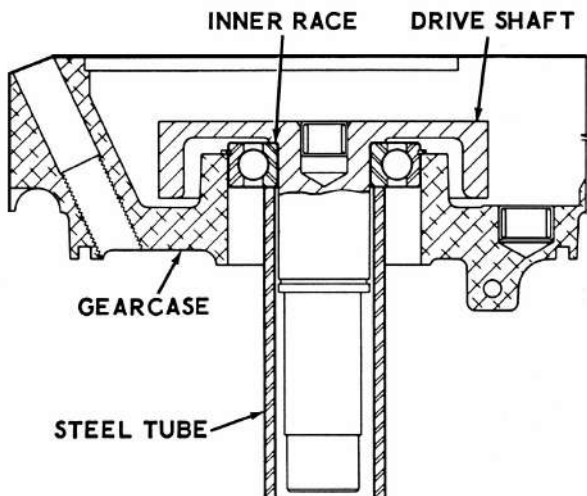

Figure 12
- b. Apply pressure to the outer race only, press the top bearing (48) into the gear case.
- c. Insert a steel tube, as shown in Figure 12, to support the bearing inner race and press the drive shaft and secondary gear (50, Figure 19) into the bearing until seated.
- e. Slide bottom bearing (43, Figure 19) over the drive shaft and secondary gear (50) and, using a steel tube as shown in Figure 12, press the bottom bearing into the gearcase until seated against the snap ring.